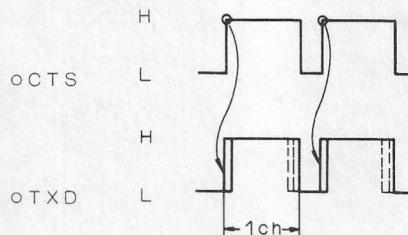

Fig. 4-2 TXD and CTS
The flowchart of the message recognition routine in the dotted box ① on the host CPU side is shown in Fig. 4-2